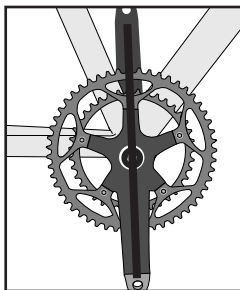

Figure 9 Align the right crank at 180 degrees to the left crank
5. As you hold the right crank at 180 degrees with the left crank (Figure 9), push the crank onto the axle splines. When the crank stops (a shallow distance) turn the axle bolt to start the threads.